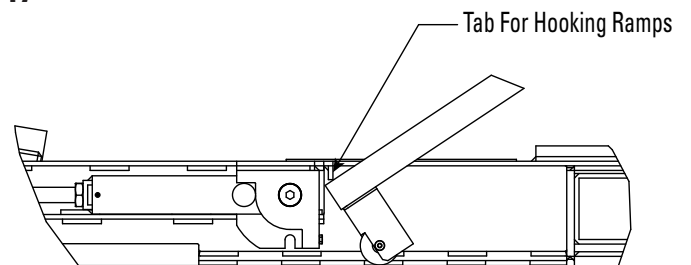

Figure 18
- Hook Ramps to the Lift Mainframe by hooking the tab from Mainframe into slot on the Ramp (see Figure 18).